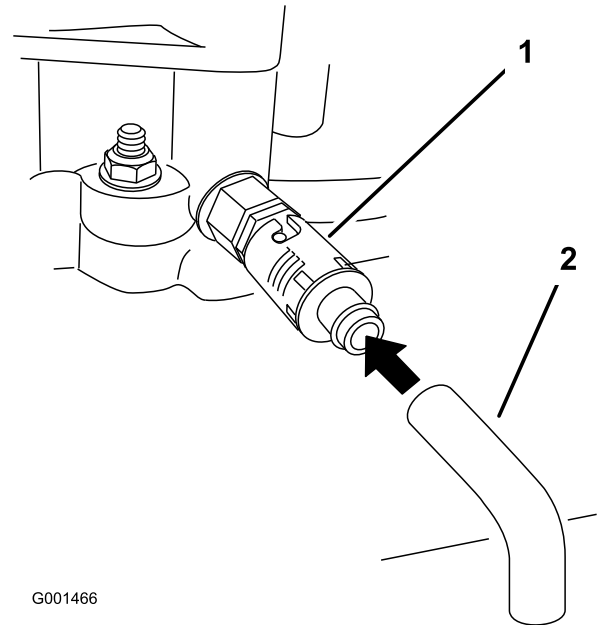

Figure 27
5. Place a pan below the drain hose. Rotate the oil-drain valve to allow the oil to drain (Figure 27).
7. Remove the drain hose (Figure 27).